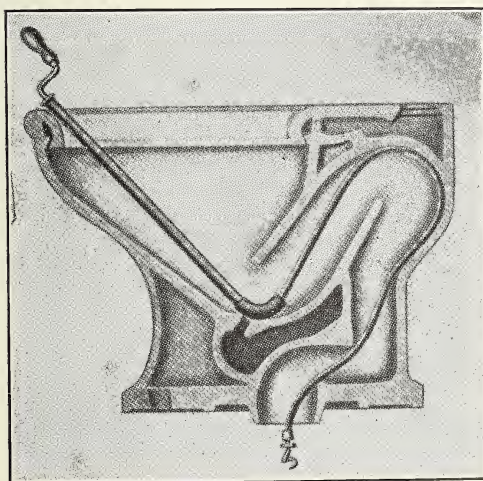

FIGURE 26.—Section through a water-closet bowl, showing use of coil spring steel auger
*Use of coil spring-steel auger.*—In most cases the cleaning out of the trap will solve the problem. However, there may be an obstruction in the pipe beyond the trap which is responsible for the trouble, and it may be reached with a coil spring-steel auger, inserted through the trap opening, and either pulled out or bored through and forced out. The coil spring-steel auger is especially effective in opening clogged water-closet traps, drains, and long sections of waste pipe lines. (See fig. 26, facing p. 78.) This tool is used like an ordinary auger, but is best handled by two persons, one to guide and keep the spring in line, and the other to turn the handle.